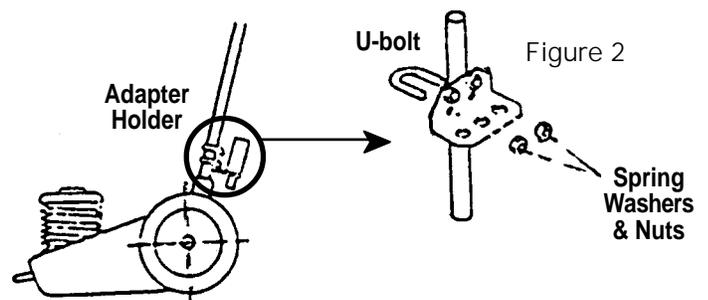

Figure 2
3. Assemble the adapter holder to the handle using U-bolts, nuts, and spring washers provided. See Figure 2.